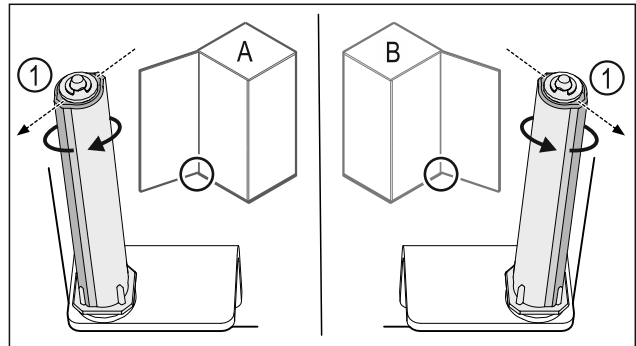

Fig. 44 Left stop (A) / right stop (B)
- Turn the closing system against the resistance until the bridge of the closing system Fig. 44 (1) shows outward.